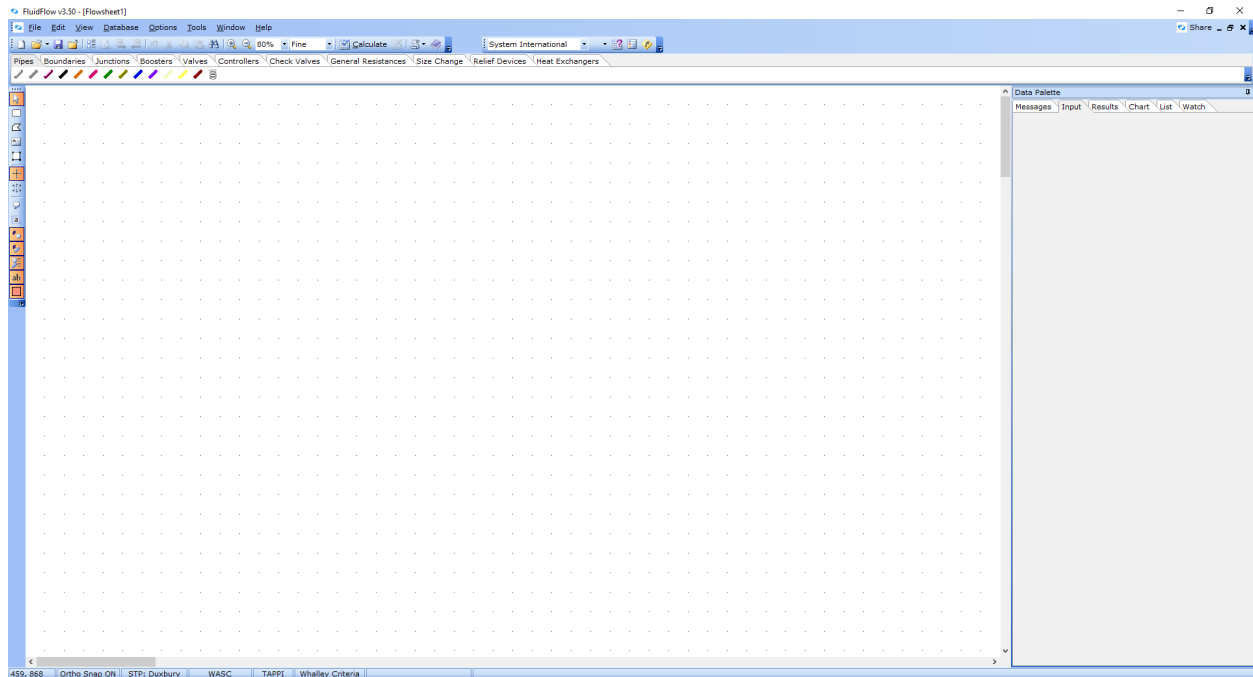

Figure 1: New flowsheet user interface.
1. Start a new flowsheet by opening the FluidFlow software. The user interface will appear as shown below (Figure 1).